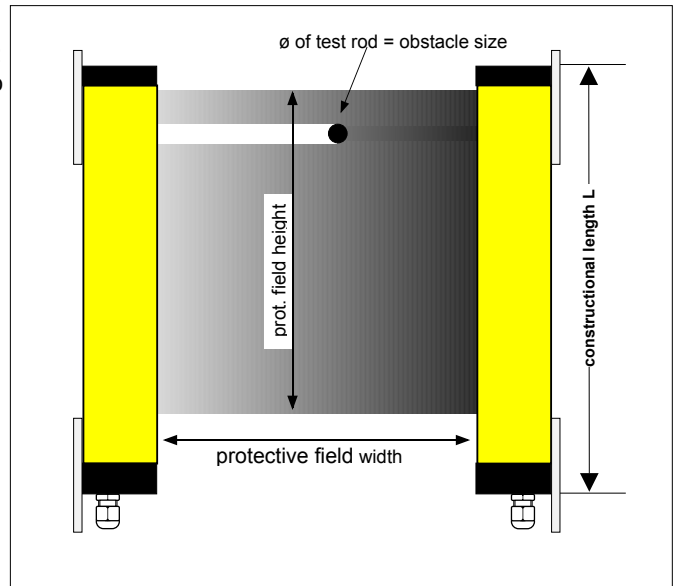

fig. 9/1 transmitter and receiver form the protective field
The ULVT/BLVT safety light barriers consist of two components: The light transmitter and receiver. The distance between the two components and the installation height are calculated from the width and height of the protective field (Fig. 9/1).
- equivalent / antivalent outputs (Fig. 9/1)